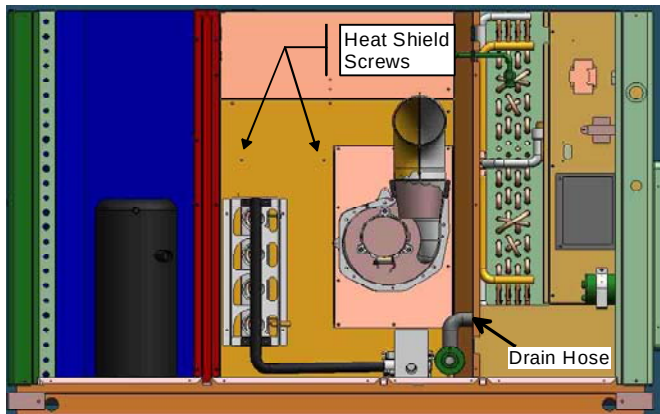

Figure 1
3. Next, disconnect and remove the gas supply piping to the gas valve, then remove the condensate drain hose clamp at the condensate drain pan and remove the rubber drain hose from the drain pan (see Figure 1).
11. Remove the two screws holding the heat shield to the heat exchanger (see Figure 1). Remove the remaining screws holding the heat exchanger assembly in place. The heat exchanger assembly can now be removed by sliding it out of the unit.
1. Slide the new heat exchanger assembly into the unit making sure to align the screw holes in the heat shield with the holes in the new heat exchanger assembly (see Figure 1). You may need to use a wire to help align the holes. If you cannot align the screw holes in the heat shield as previously described, you will have to remove the top to gain access to the heat shield. You can then reach in and hold the heat shield in place by hand while installing the two screws to secure the heat shield to the heat exchanger.
10. Reconnect the condensate drain hose to the condensate drain pan using clamp removed in Step 3 of the removal procedures (see Figure 1).